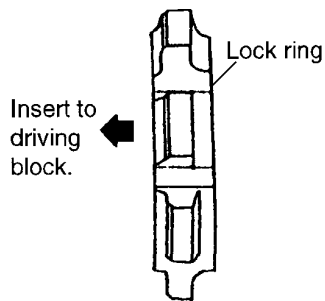

Fig. 9
1. If the lock ring comes out, reassemble in the correct direction. (See Fig. 9)